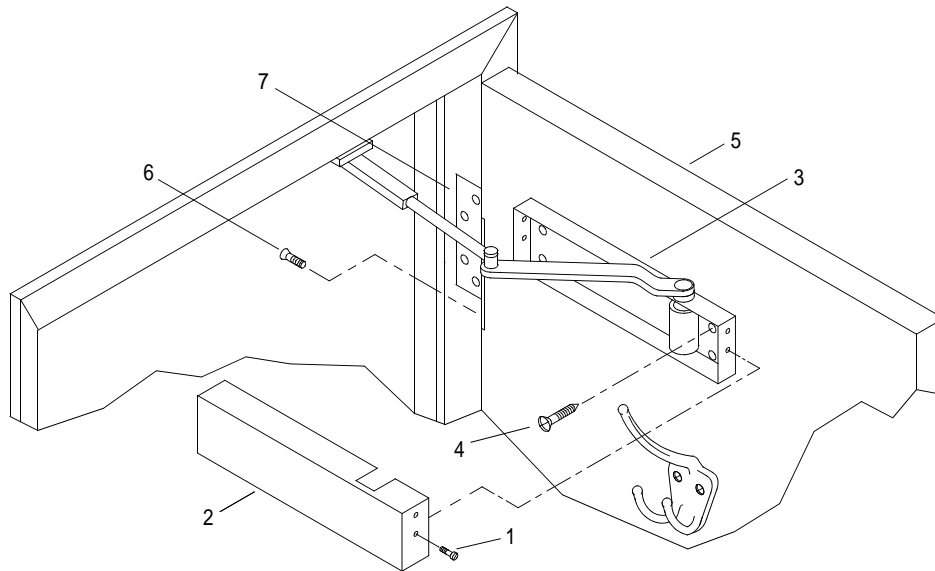

Figure 1. Personnel Shelter Interior Door
1. Remove screws (figure 1, item 1) securing cover (figure 1, item 2) to actuator (figure 1, item 3).
2. Remove screws (figure 1, item 4) securing actuator (figure 1, item 3) to door (figure 1, item 5).
3. Using assistant to support weight of door (figure 1, item 5), remove screws (figure 1, item 6) from door hinges (figure 1, item 7).